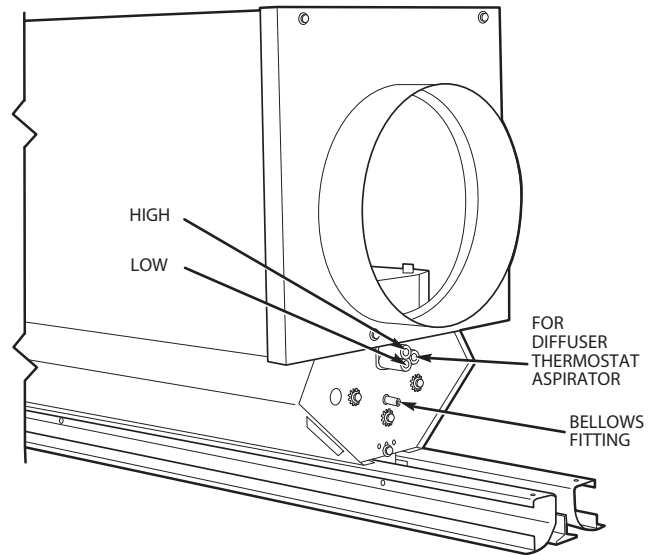

Fig. 30 — Typical 37HS Air Terminal Before Installation of Controls
2. Remove cap from bellows fitting (see Fig. 30) and install $\frac{1}{16}$ -in. piece of $\frac{1}{4}$ -in. OD pneumatic tubing onto the bellows fitting (push on full length of fitting).
2. Remove cap from bellows fitting and install $1\frac{1}{16}$ -in. long piece of $\frac{1}{4}$ -in. OD pneumatic adaptor tubing onto the bellows fitting (push on full length of fitting). See Fig. 30.